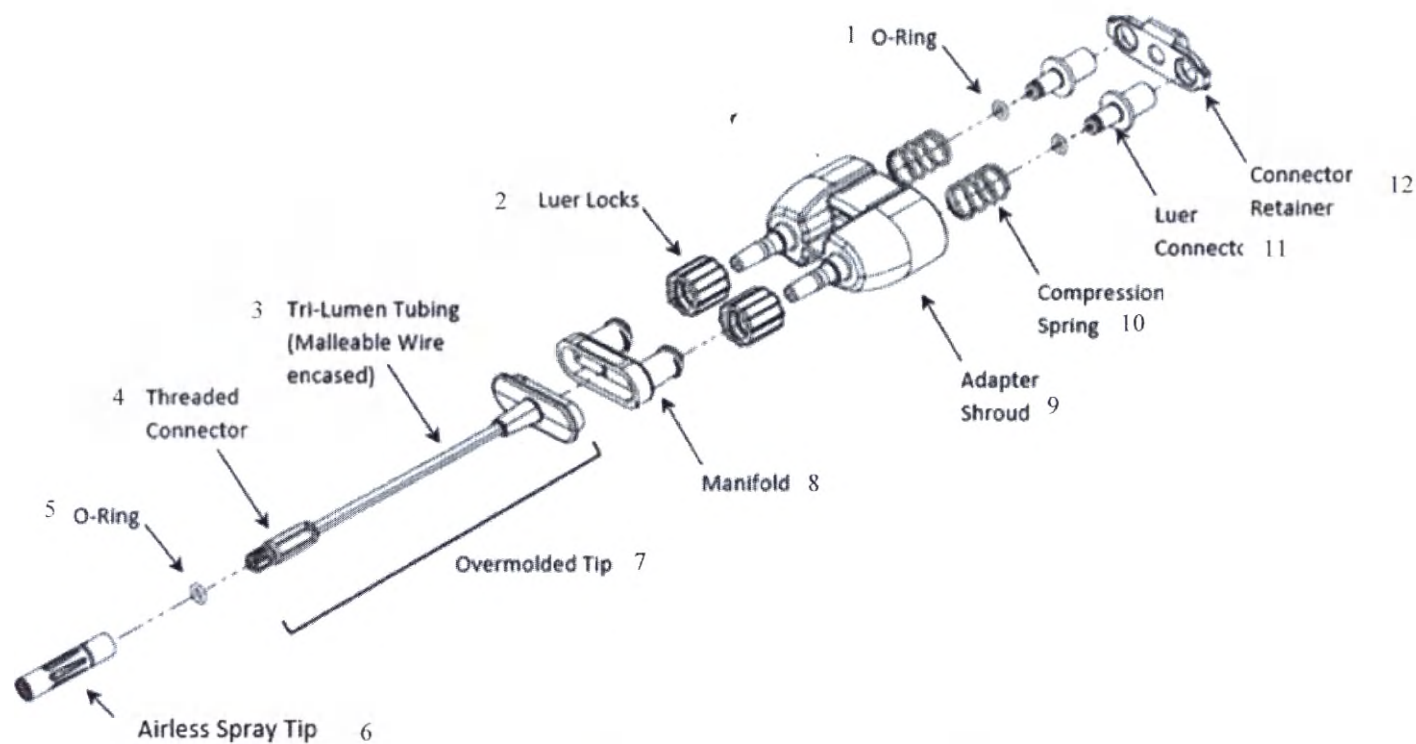

Figure 2 - VeraSeal Dual Applicator Components
When the plunger is depressed, the VeraSeal Solutions for Sealant is driven from the glass syringes and flows through the Dual Applicator for open surgery for application of surgical sealant VeraSeal (Вирасиал®). The Thrombin (Human) and Fibrinogen (Human) travel through two Luer Connectors (11), an Adapter Shroud (9), a Manifold (8), an Overmolded Tip consisting of a Trilumen Malleable Tip (3) with an overmolded connection on one end and a Threaded Connector (4) on the other, and a removable Airless Spray Tip (6) (Figure 2).